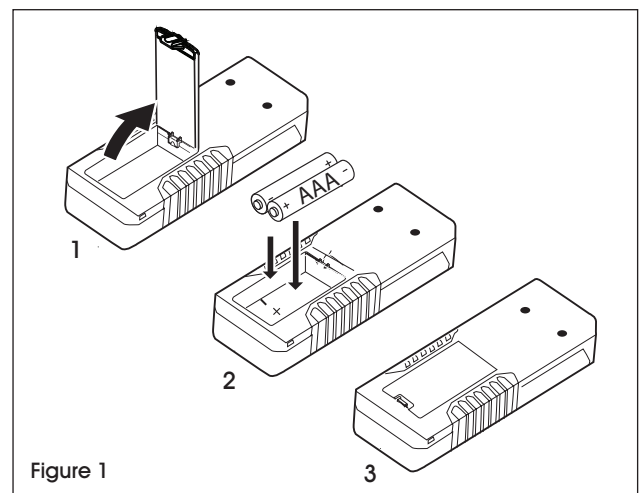

Figure 1
**NOTE:** Ensure the batteries are inserted in the correct manner, with the correct polarity. (See Figure 1)